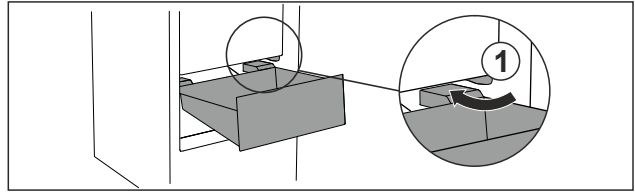

Fig. 69
- ▶ Guide drawer in at an angle around the stoppers Fig. 69 (1).